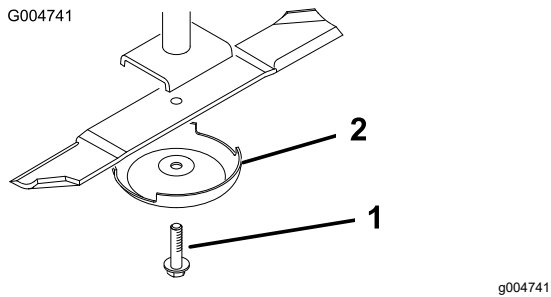

Figure 25
- Remove the blade bolt, anti-scalp cup, and blade from the spindle shaft (**Figure 25**).